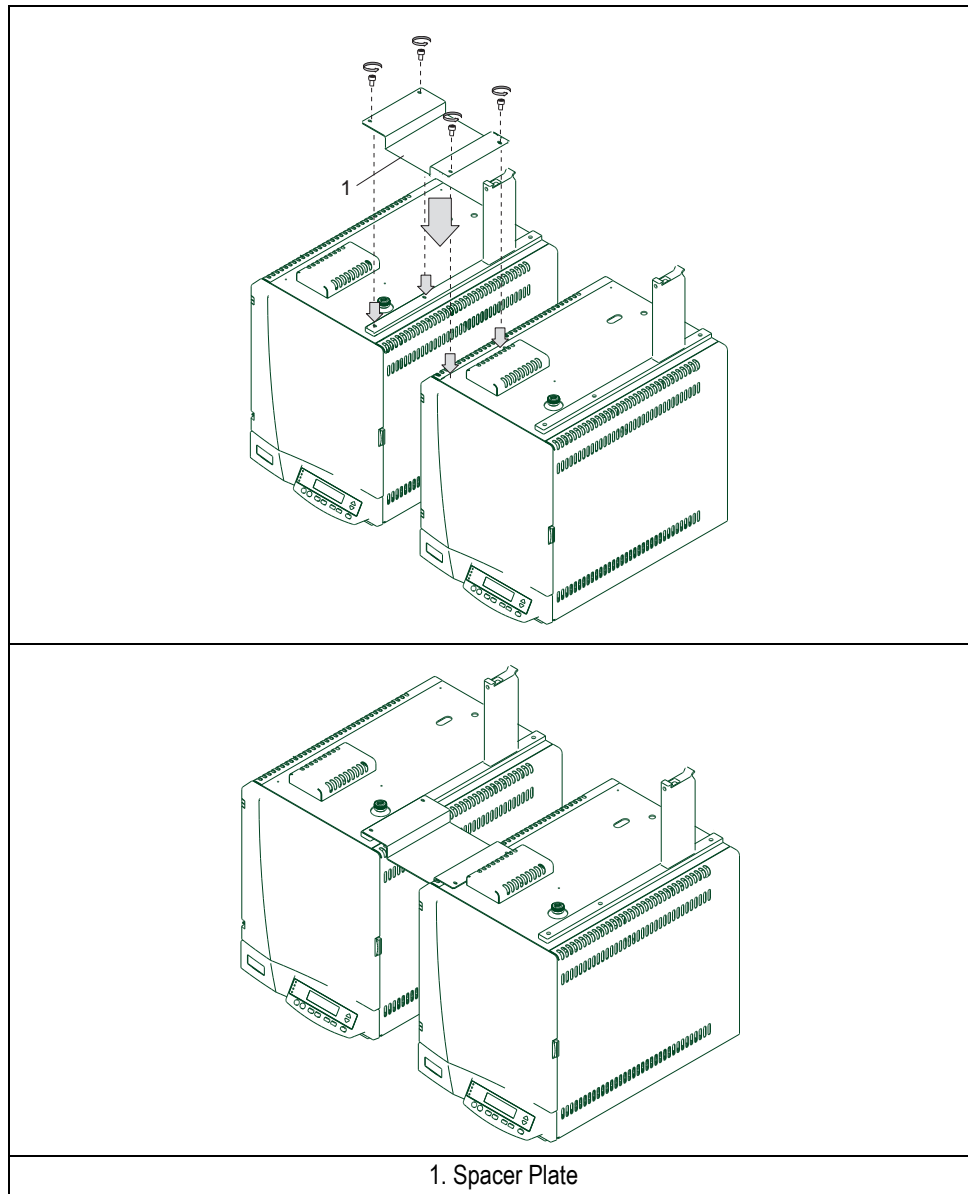

Figure 3-11. Mounting of the Spacer Plate
3. Mount the spacer plate on the two GC units as shown in Figure 3-11.